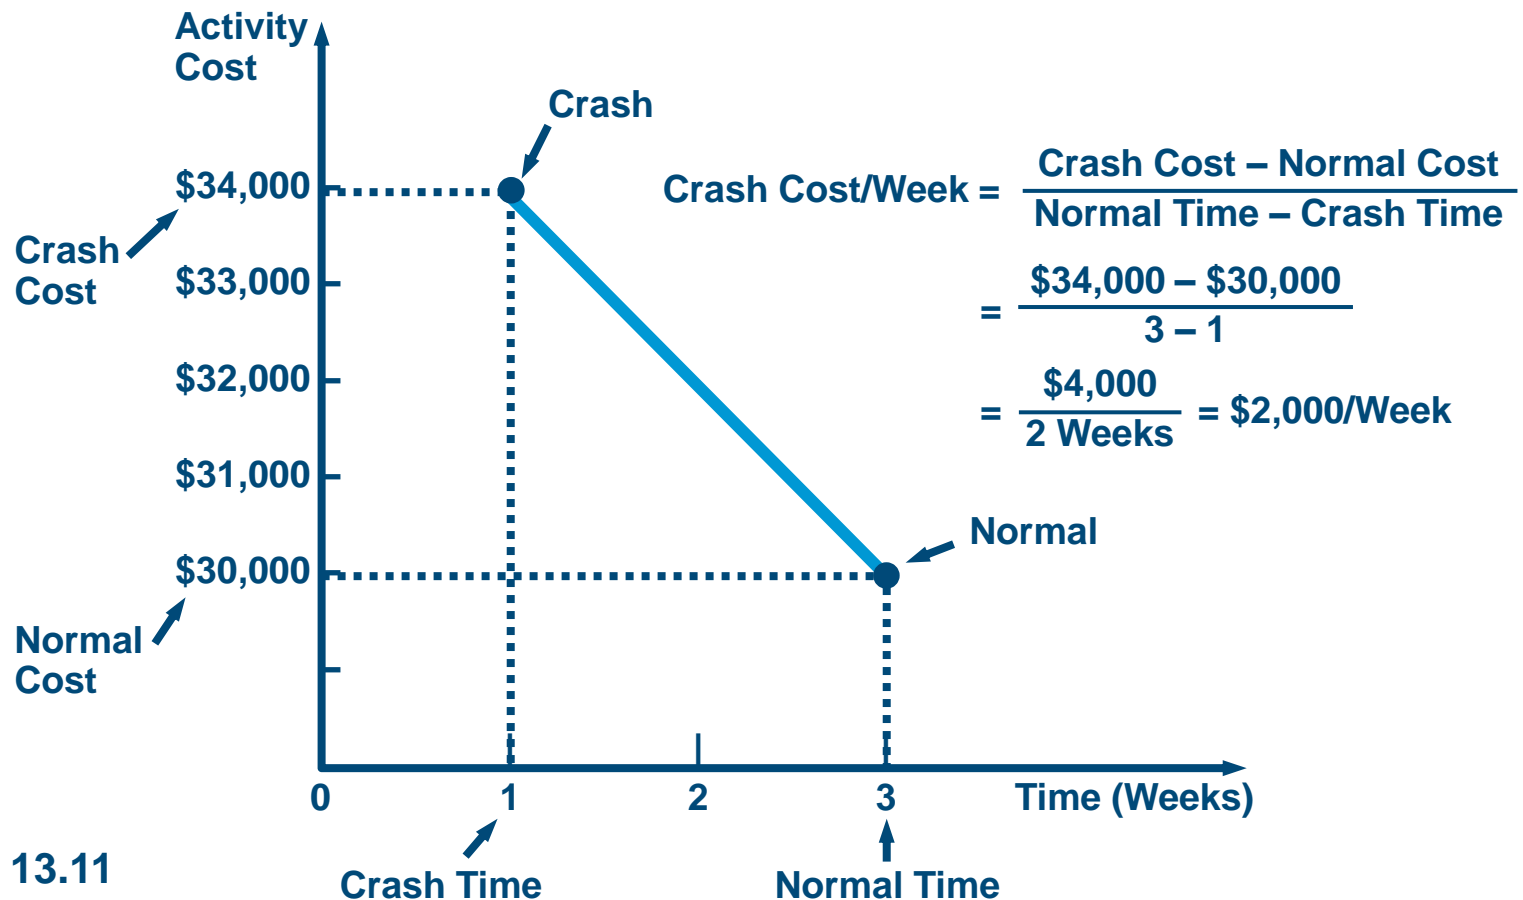

Figure 13.11
- Crash costs are assumed to be linear and Figure 13.11 shows the crash cost for activity *B*